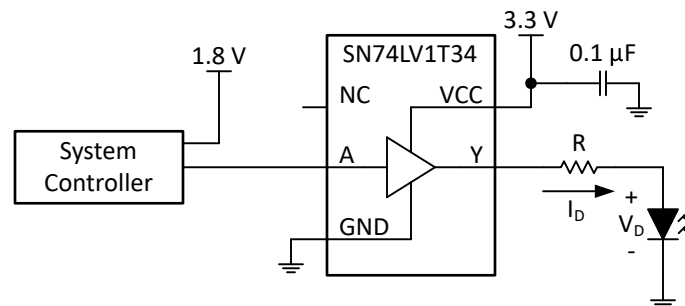

Figure 9-1. Typical Application Block Diagram
Figure 9-1 shows how the SN74LV1T34-Q1 is used to up-translate a 1.8-V signal to 3.3 V to drive an LED in this application. The SN74LV1T34-Q1 does not limit the output current, so an added output resistor is used to provide the appropriate current limiting. The resistor value (R) should be determined by the LED's forward voltage (V_D) and the desired forward current through the LED (I_D) using this equation: $R = (V_{CC} - V_D)/I_D$.